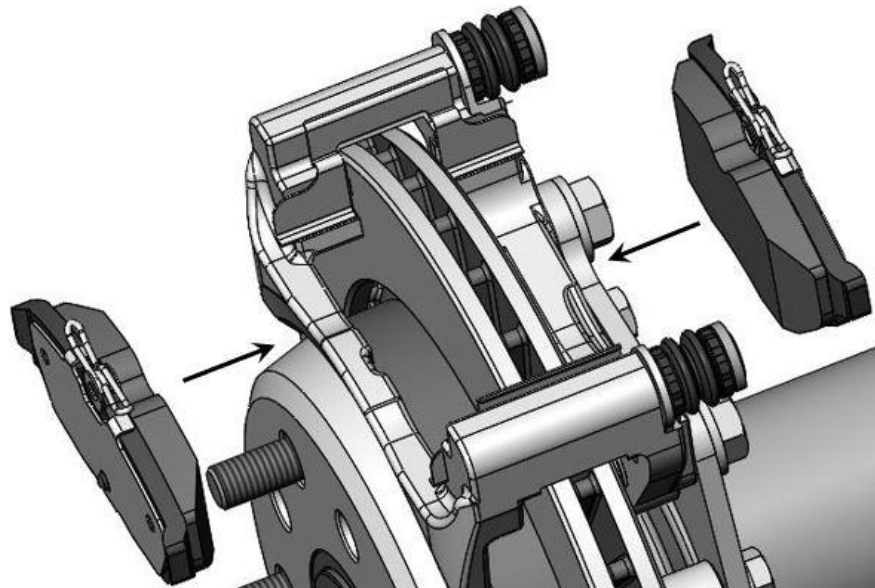

Figure 7 – Brake Pad Installation
11. With the Abutment Clips installed, position the pads into the Caliper Anchor Bracket. Refer to Figure 7 below for reference.